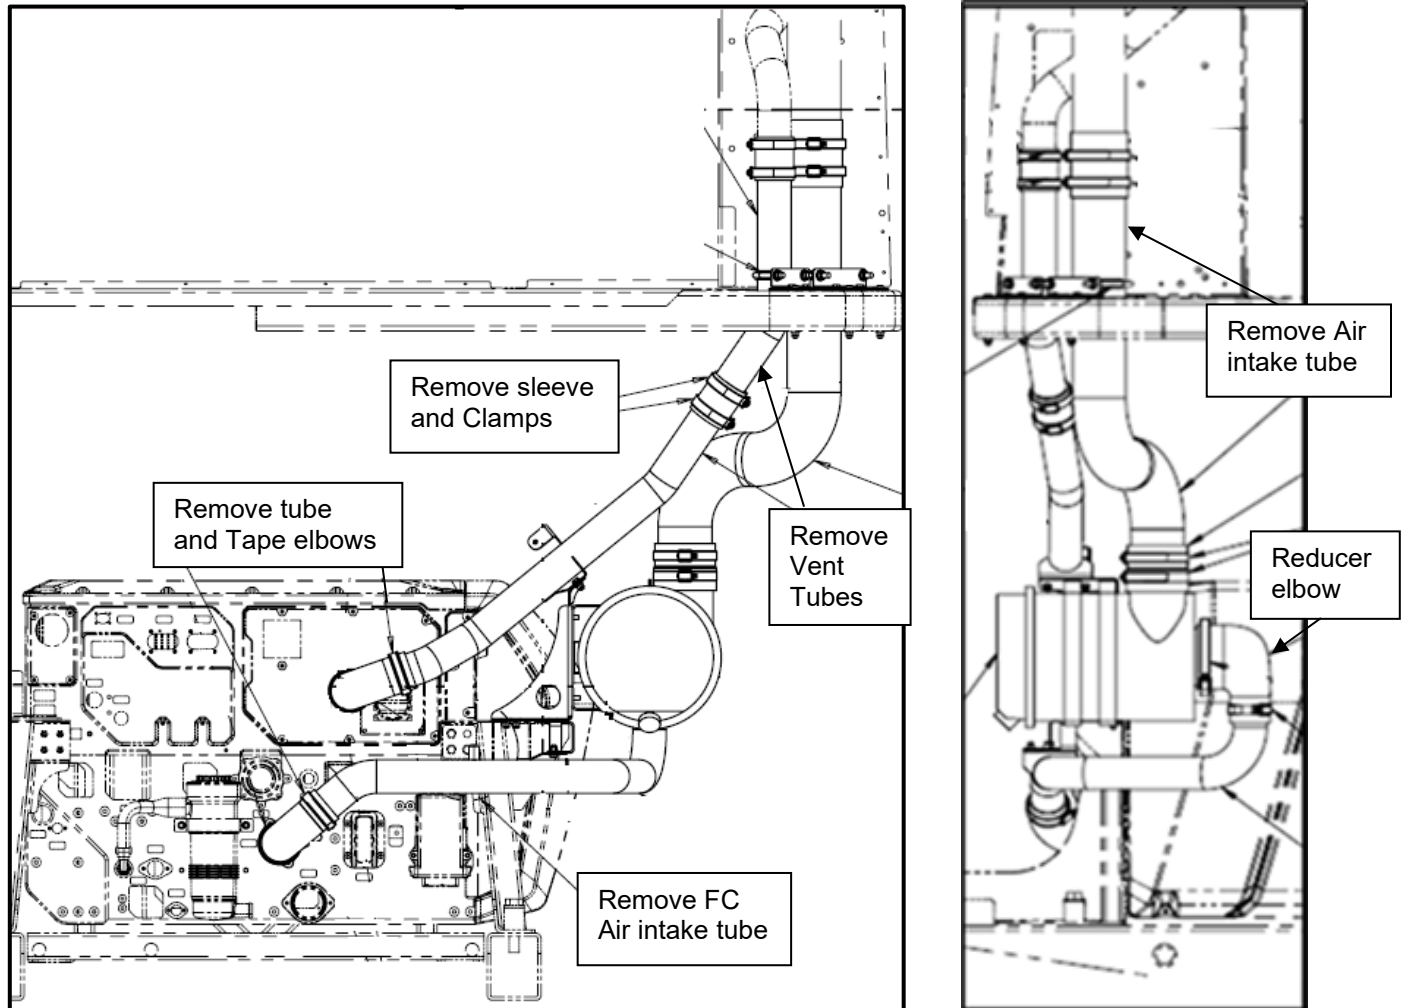

Figure 6: Air intake and vent tube location reference
12. Remove the sleeves, clamps, reducer elbow, and tubes from the air intake tube, vent tube and immediately tape both elbow at end of vent tube and intake tube to prevent entry of contaminants. set clamps and sleeves aside for reinstallation. See figure 6.